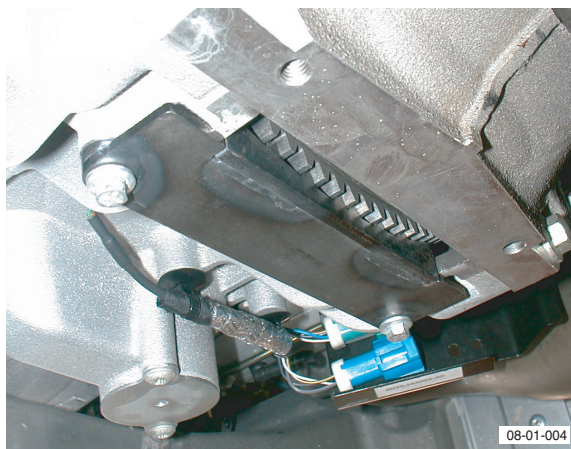

Fig. 1
5. Install special tool SKAM14546 OT to restrain flywheel and install and tighten bolts (x2) (see Fig. 1).